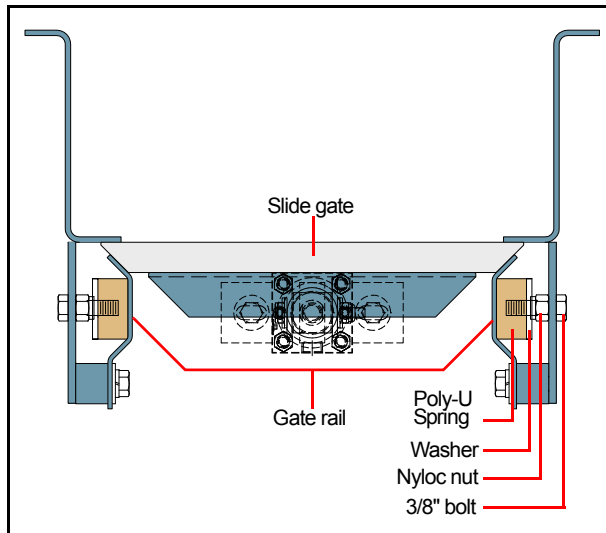

Figure 5-3 Slide Gate Assembly
3. Adjust the nyloc nut clockwise against the stainless steel washer to apply pressure against the Polyurethane spring (Figure 5-3).